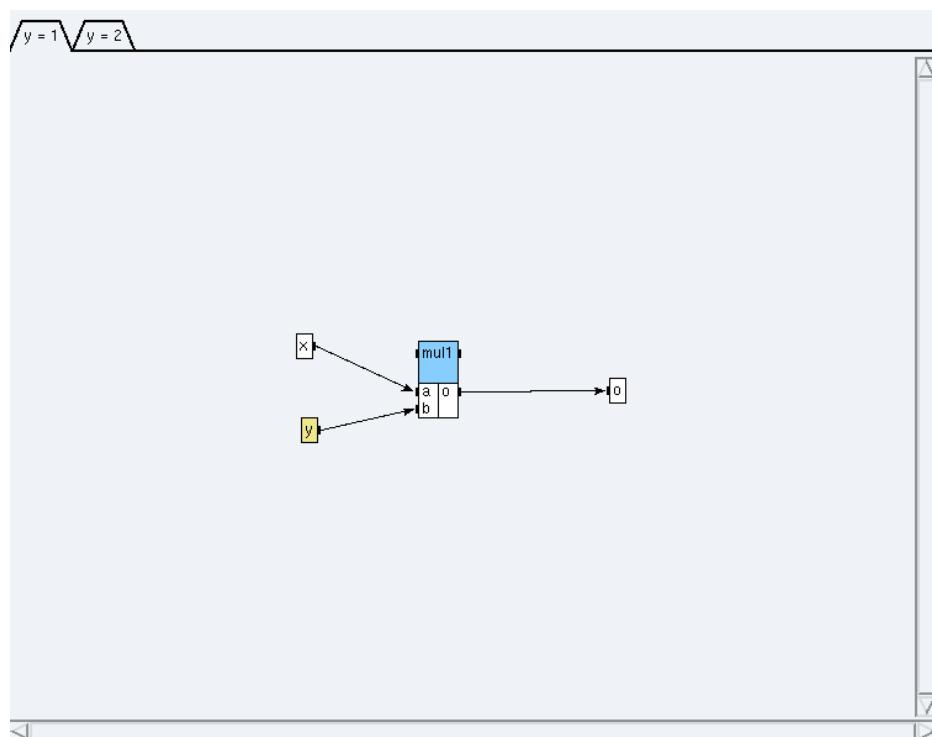

Figure 5.7: Condition $y=1$
- click on the condition $y=1$ (*cf.* figure 5.7) and create the function `mul1` of the definition **Arit_mul** from `int` library,